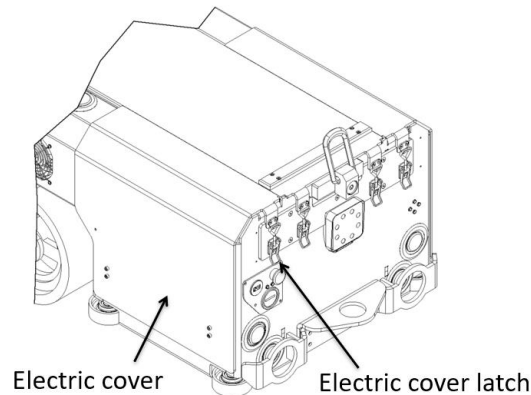

Figure 5 : Electric cover details
1. Remove the electric cover using the latch located at the back of the machine (see Figure 5) to have access to the electric components.
2. Plug the battery connectors into the mating connectors located in or coming from the electric compartment (see Figure 5). The location of the connectors may slightly be different depending on the model.
2. Remove the electric cover using the latch located at the back of the machine (see Figure 5) to have access to the electric components.